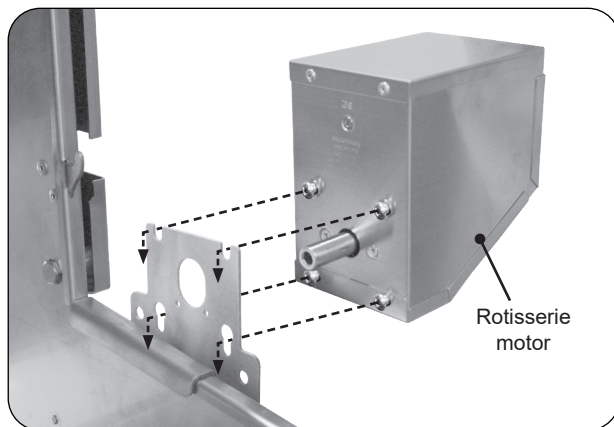

Fig. 43-2 Install rotisserie motor
2. Slide the rotisserie motor fully onto the motor bracket located on the right side of the grill (see Fig. 43-2) and connect it to a power source (do not turn on).